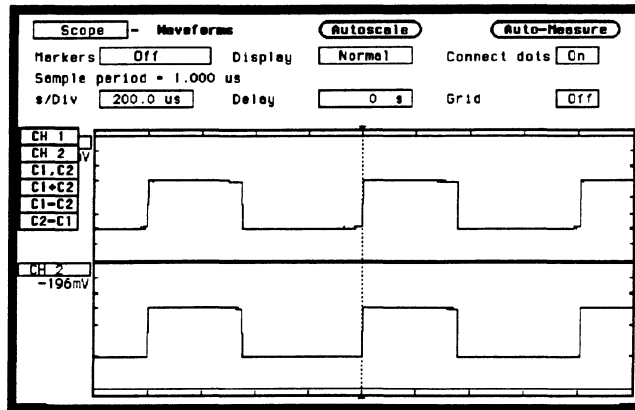

Figure 23-11. Channel Mode Pop-up
1. Select **CH 1** label field, then select **Insert waveform**. A channel mode pop-up will appear. See figure 23-11.